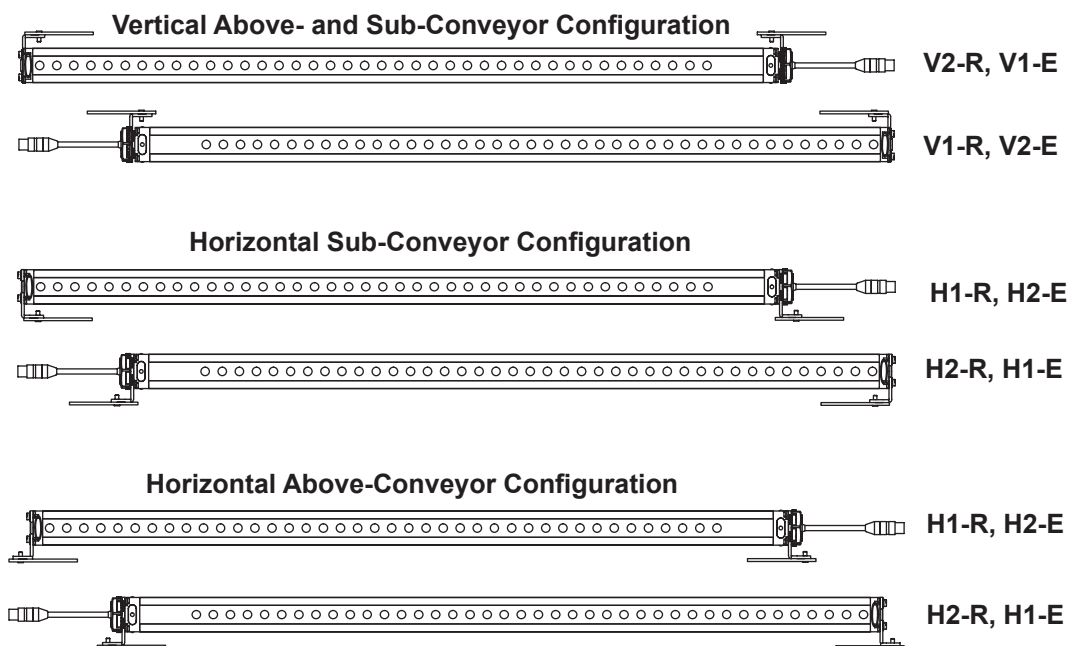

Figure 11 Beam Array Bracket Orientation
9. Attach the mounting brackets to the beam arrays and orient according to Figure 11. Position brackets for receivers and emitters 180 degrees apart in a parallel orientation to allow for proper alignment.